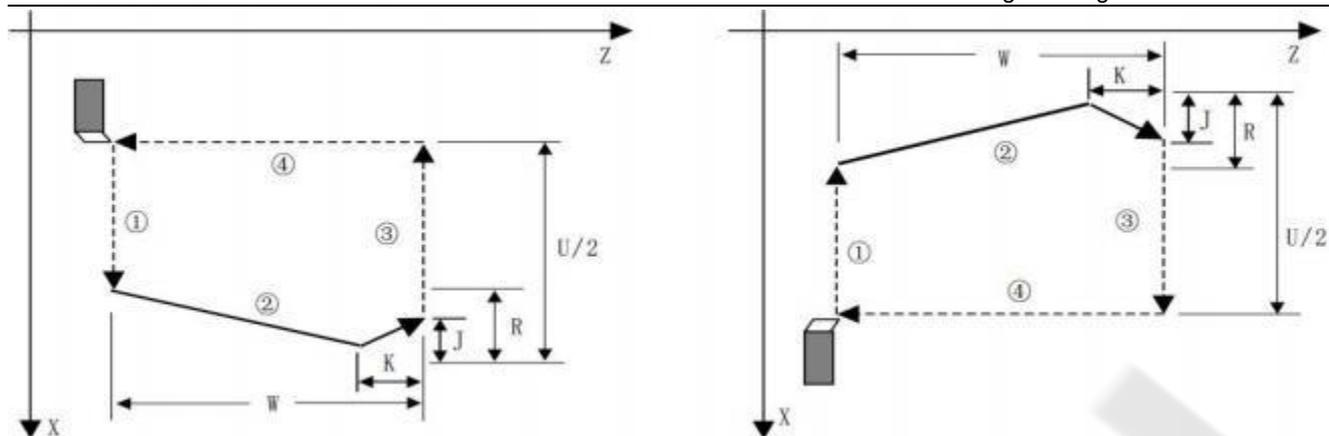

Figure 3-46
- The signs of U and W determine the direction of  $A \rightarrow C \rightarrow D \rightarrow E$ , and the sign of R(i) determines the direction of  $C \rightarrow D$ . There are four combinations of U and W symbols, corresponding to four processing trajectories, as shown in Figure 3-46.